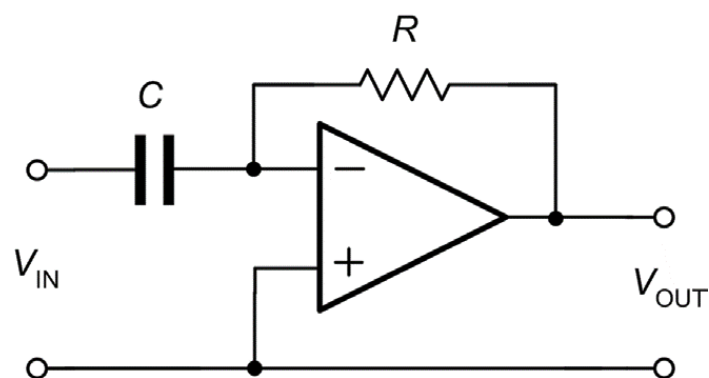

Figure 1.42 A differentiator
- A differentiator using an operational amplifier is shown in Fig. 1.42.